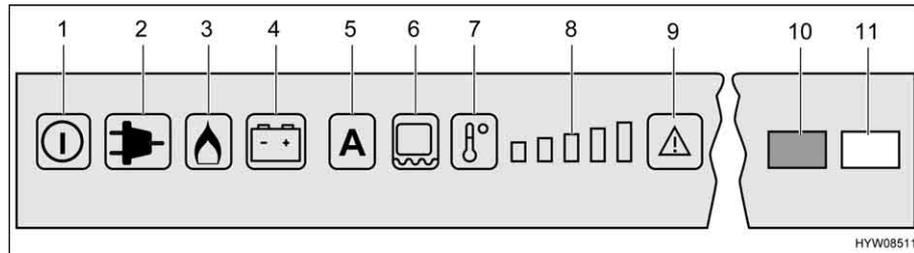

Fig. 194 Operating controls for the refrigerator (Dometic RMD)
If the "AES" operating mode is set, the 230 V supply is **not** connected and the vehicle engine is **switched off**, the AES selects the gas supply. When selecting gas operation the ignition fuse is opened automatically so gas can get into the burner. At the same time the electronic ignition is activated. If the gas flame is extinguished, e.g. by blast of wind, the ignition is activated immediately and re-ignites the gas. If there is a fault in gas operation, the illuminated buttons "Gas" (Fig. 194,3) and "Fault" (Fig. 194,9) flash. The "Fault" indicator lamp (Fig. 194,10) lights up and an alarm sounds for 20 seconds.
When turned on the first time the refrigerator automatically selects the middle thermostat position. This position can be adjusted manually using the temperature range selection button (Fig. 194,7). The indicator lamps (Fig. 194,8) show the selected thermostat position. The refrigerating temperature for all three types of power is set with the temperature range selection button. It takes a few hours till the refrigerator reaches its normal operating temperature. When changing over the operating mode the thermostat setting will be maintained. The refrigerating temperature is retained regardless of the type of power being used.
- Switch on the frame heater for a 2 hour period: Push button (Fig. 194,6) once. One bar is lit up on the temperature range display (Fig. 194,8).
- Switch on the frame heater for a 5 hour period: Push button (Fig. 194,6) twice. Two bars are lit up on the temperature range display (Fig. 194,8).
- Setting frame heater for continuous operation: Push button (Fig. 194,6) three times. Three bars are lit up on the temperature range display (Fig. 194,8).
The temperature range display (Fig. 194,8) shows the operating time of the frame heater for several seconds.
High external temperatures and high humidity can cause drops of water to form on the metal frame of the freezer compartment. This is why the refrigerator is equipped with a frame heater for the freezer compartment. If the temperature and humidity are high, switch on the frame heater by pressing the button (Fig. 194,6). This prevents corrosion. If the frame heater is switched on, the illuminated button (Fig. 194,6) is lit.
- Press and hold the On/Off button (Fig. 194,1) for about 2 seconds. The refrigerator switches on and the previously set power type or "AES" is displayed.
- Use the temperature range selection button (Fig. 194,7) to set the refrigerating temperature. The indicator lamps (Fig. 194,8) show the selected thermostat position.
- Press and hold the On/Off button (Fig. 194,1) for about 2 seconds. The refrigerator switches off and no displays are lit.